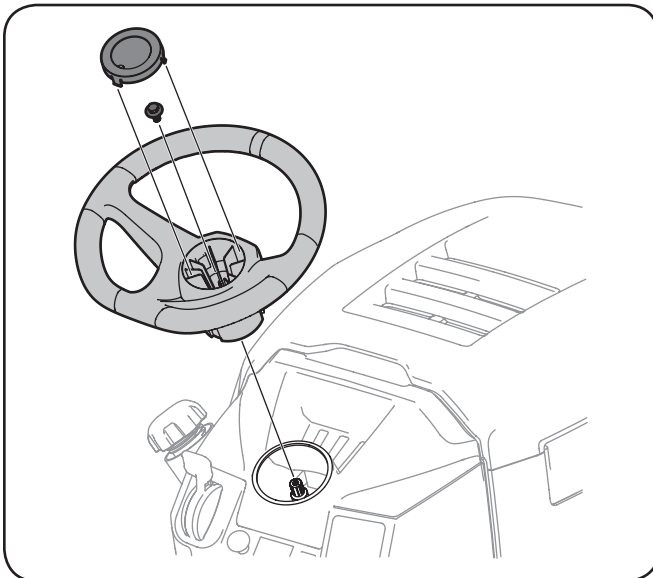

Figure 3-8
1. With the wheels of the tractor pointing straight forward, place the steering wheel over the steering shaft. See Figure 3-8.